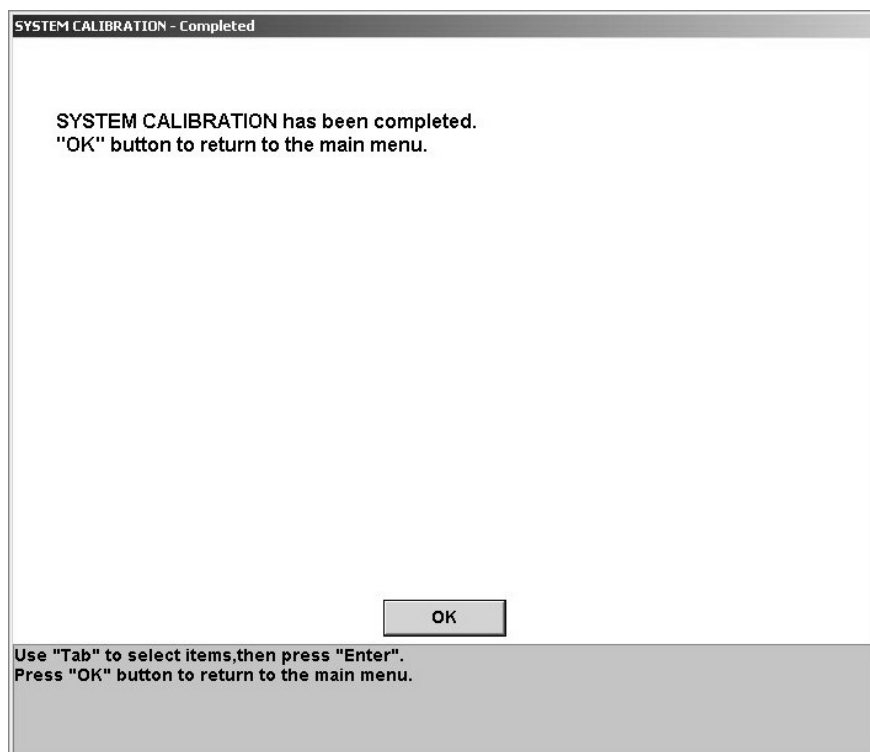

Fig.98
9. Clicking the "OK" button displays the following window (Fig.98):